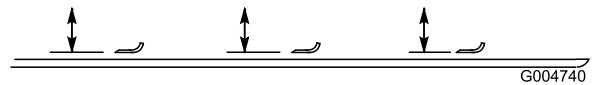

Figure 108
- Rotate the blade until the ends face forward and backward (Figure 108). Measure from the inside of the cutting unit to the cutting edge at the front of the blade. Remember this dimension.